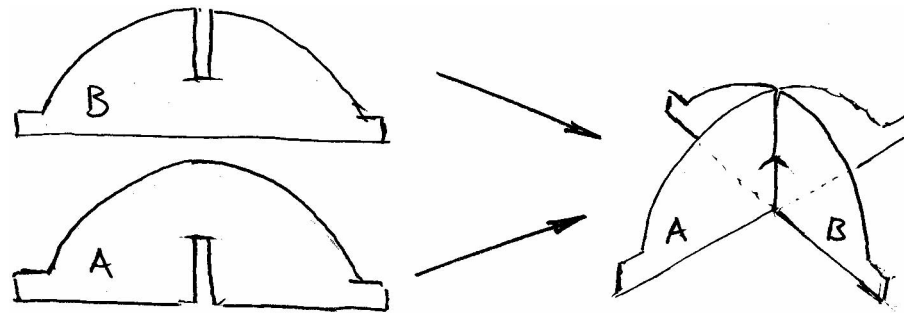

Figure 3: Both parts of the plate-wood model for the cooker assembly
- Cut out a strip having the width of the plate-wood along the x-axis from outside in upto the mark for the focal point, for the one piece beginning from the straight base line and for the other piece from the parabolic side to the focal point. Now the two pieces are different as shown on figure 3.